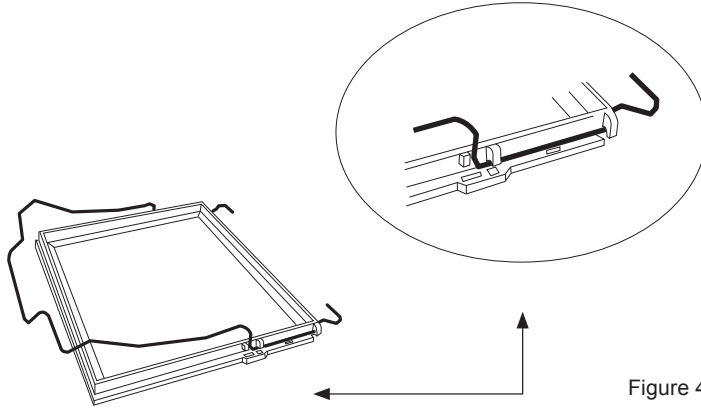

Figure 4
1. Fix the metal spring into the slots of the supporting frame as shown in figure 4, but on one side only.